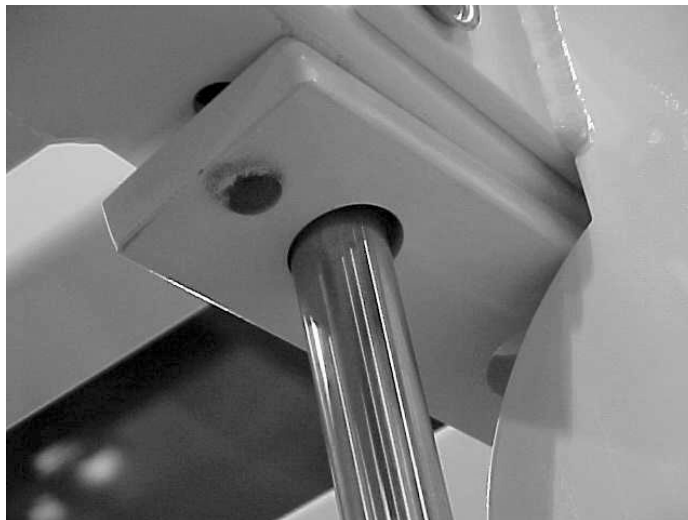

Figure 8. Bolt on the top plate.
- F. With the top plate on the guide rods, bolt on the top plate to the top of the cells as shown in Figure 8 using a 9/16" socket and combination wrench and the 3" bolts (with cap washers) that were previously inserted.